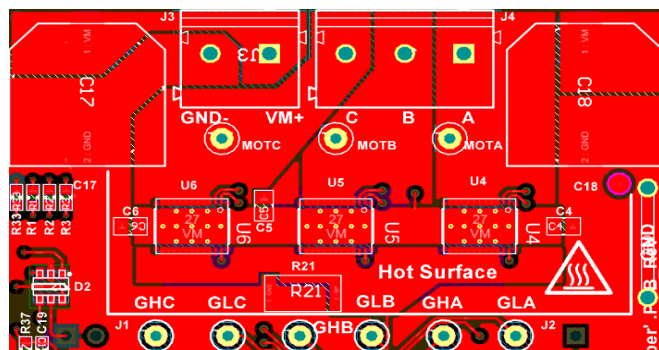

図 5-6. Top Layer
- Use the smallest drill size allowed by the design. The example in Figure 5-6 uses vias with a 10-mil drill hole and a 16mil solder pad.